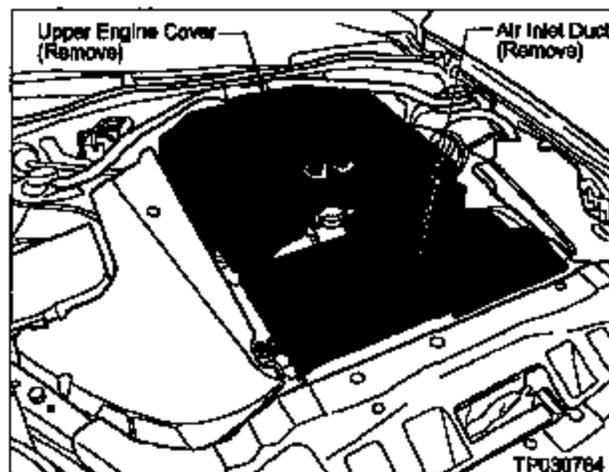

Figure 14
3. Remove the Upper Engine Cover and Air Inlet Duct (see Figure 14).